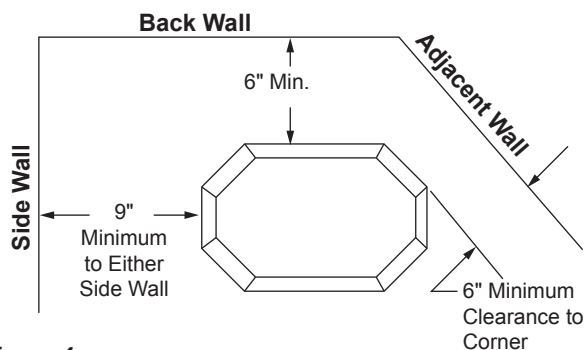

Figure 4 -
- Minimum clearances to combustibles, side-wall, ceiling, woodwork, and windows **must be maintained**. *Page 8, Figures 4 and 5.*
The dimensions shown in *Figures 4 and 5* are minimum clearances to maintain in installing this heater. Left and right clearances are determined when facing the front of the heater.
- Stove must be at least 6" from the back wall. *Figure 4*
- Stove must be at least 9" from either side wall. *See Figure 4*
- Stove must be at least 6" from the corner. *Figure 4*